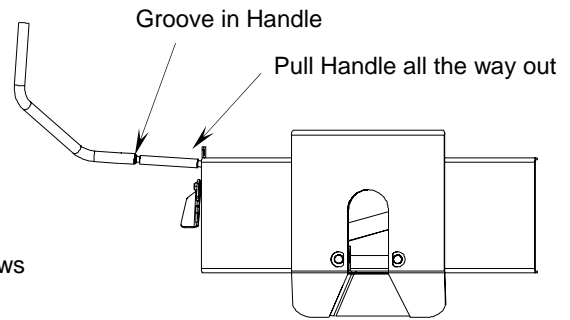

Fig. 18
7. Pull hitch handle out completely until it latches in open position so that king pin is no longer securely grasped by hitch jaws (See Fig. 18 on next page). Trailer is now free from hitch and truck. If handle does not pull out, there is probably pressure against the jaws. To relieve this pressure, back the truck slightly. Reset truck emergency brake. Then pull hitch handle out completely until it latches in open position. (See Fig. 18)